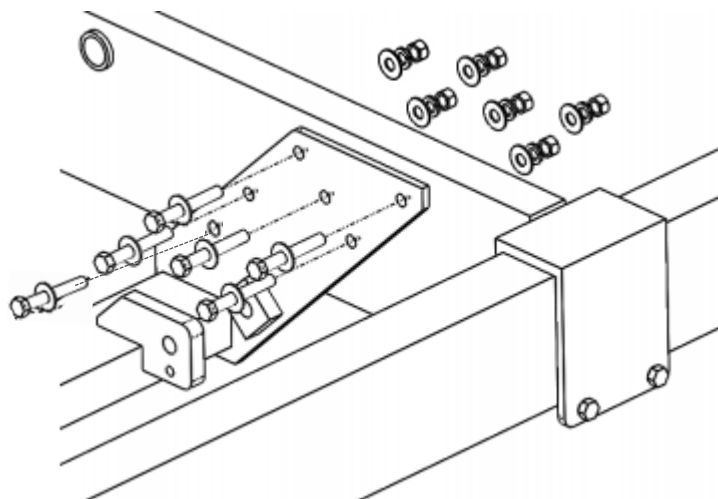

Figure 6
1. Align the holes on the Lower Cylinder Mount with the corresponding holes on the Side Beam as shown in figure 6.
2. Attach one (1) 1/2" Flat Washer to five (5) 1/2" x 3-1/2" Hex Bolts and insert into the corresponding holes as shown in Figure 6.
3. Attach one (1) 1/2" Flat Washer, one (1) 1/2" Lock Washer, and one (1) 1/2" Hex Nut to each of the five (5) protruding ends of the Hex Bolts and hand tighten.